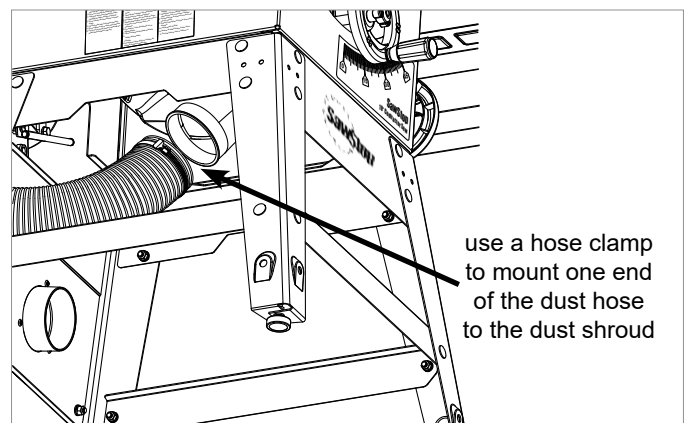

Fig. 3
3. Place a hose clamp over one end of the dust hose and then slide the end of the dust hose over the 4 inch port on the bottom of the dust shroud (see Fig. 3). Tighten the thumb screw on the hose clamp to secure the dust hose to the dust shroud.